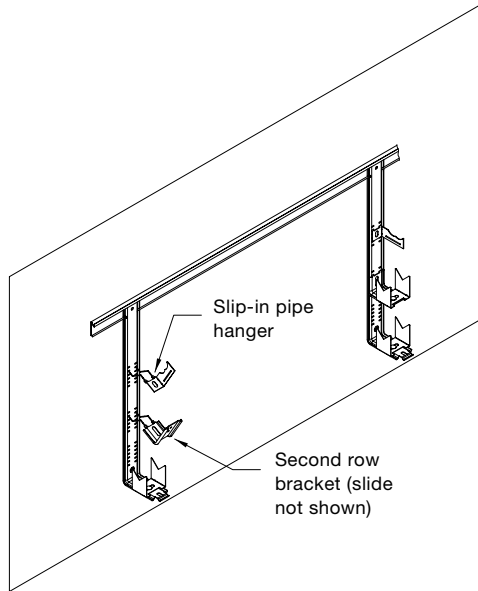

Figure W-5
5. Install any additional mounting brackets to the snap expansion bracket by slipping them into the slots provided on the snap expansion bracket. (Not all mounting brackets are available on all units.) (Figure W-5)